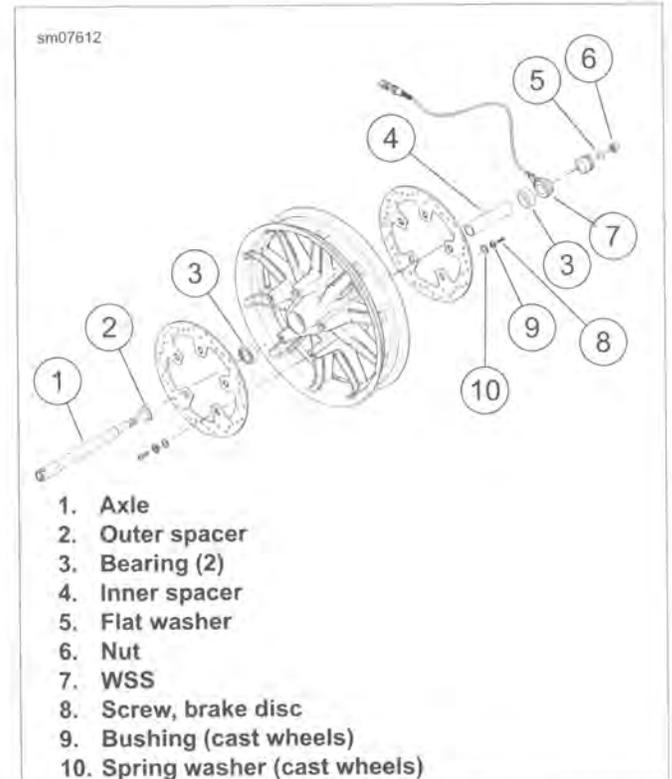

Figure 2-4. Front Wheel (typical)
6. See Figure 2-4. Remove the axle nut (6) and flat washer (5).
- See Figure 2-4. If removed, install brake discs using **new** screws (8) (metric), bushings and spring washers (9, 10) (cast wheels only). Tighten in a crosswise pattern to 16-24 ft-lbs (21.7-32.5 Nm).
ABS equipped: See Figure 2-4. Verify that WSS cable is installed in bracket and that clip is secure. Clip cannot be installed once mounting screws are started.